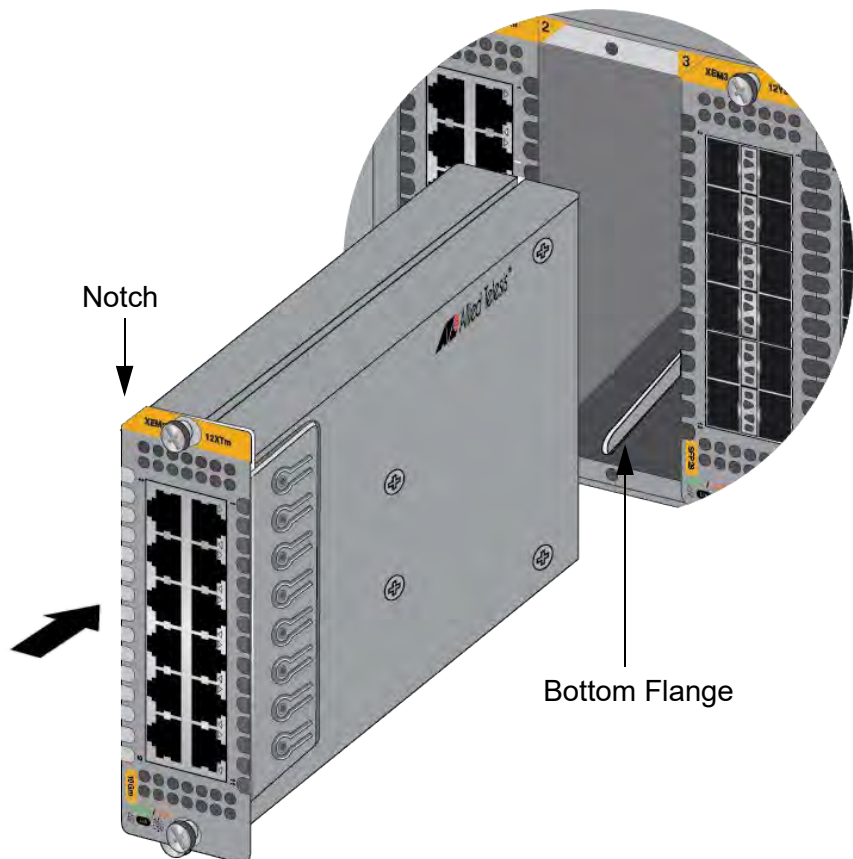

Figure 43. Sliding an XEM3 Module into a Slot
- Position the XEM3 Module with the notch on the faceplate in the upper left corner. Refer to Figure 43. The chassis slot has top and bottom flanges that fit into grooves on the top and bottom of the module. Carefully slide the module into the slot.